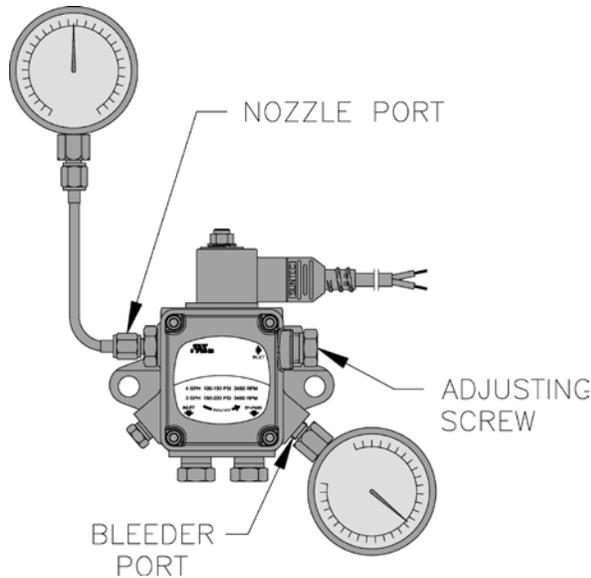

Figure 26: Adjusting Fuel Pump Pressure
- a. When checking a fuel unit's operating pressure, a reliable pressure gauge may be installed in either the bleeder port or the nozzle port. For Beckett burner refer to Figure 26. Refer to Figure 9 for Riello burner.